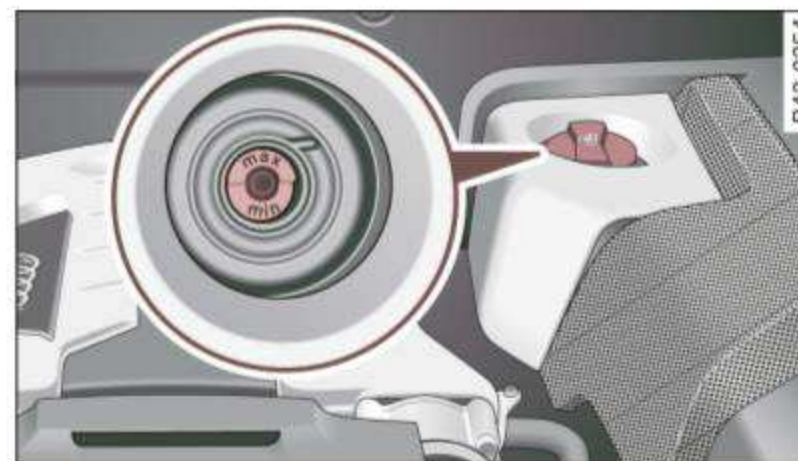

Fig. 121 Engine compartment: coolant expansion tank
- Read the coolant level inside the coolant expansion tank ⇒ fig. 121. With a cold engine, it must be above the “min” mark. With a hot engine, it can be a little above the indicated range.